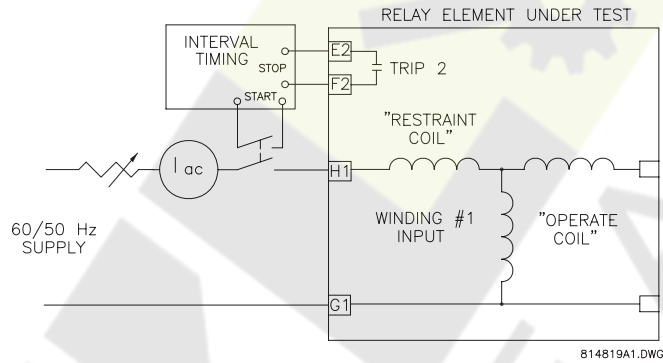

FIGURE 7-5: Timer test circuit
- ▷ Connect an AC current signal to terminals H1 and G1 through a double-pole, single-throw switch. The second pole of the switch starts a timer circuit that will be stopped by the operation of the relay trip contact. Refer to FIGURE 7-5: *Timer test circuit* on page 7-249.